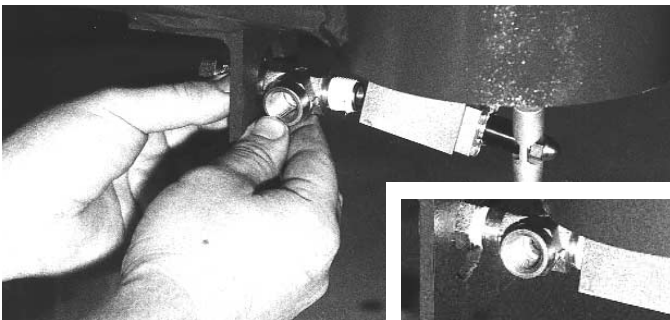

Figure 2
2. Attach street tee assembly to tower valve (see Figure 2) and tighten securely until female coupler is positioned as shown in Figure 2 inset.